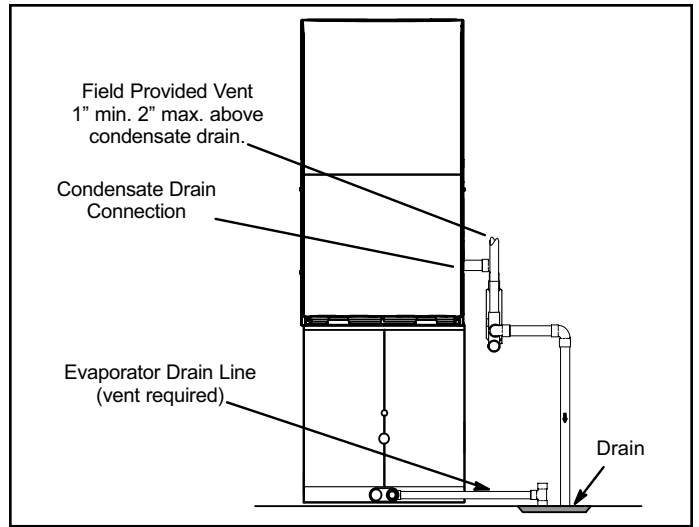

Figure 45. Unit with Cooling Coil Using Separate Drain
5. Figure 45 shows the furnace and evaporator coil using a separate drain. If necessary the condensate line from the furnace and evaporator coil can drain together. See Figure 46. The field provided vent must be a minimum 1" to a maximum 2" length above the condensate drain outlet connection.